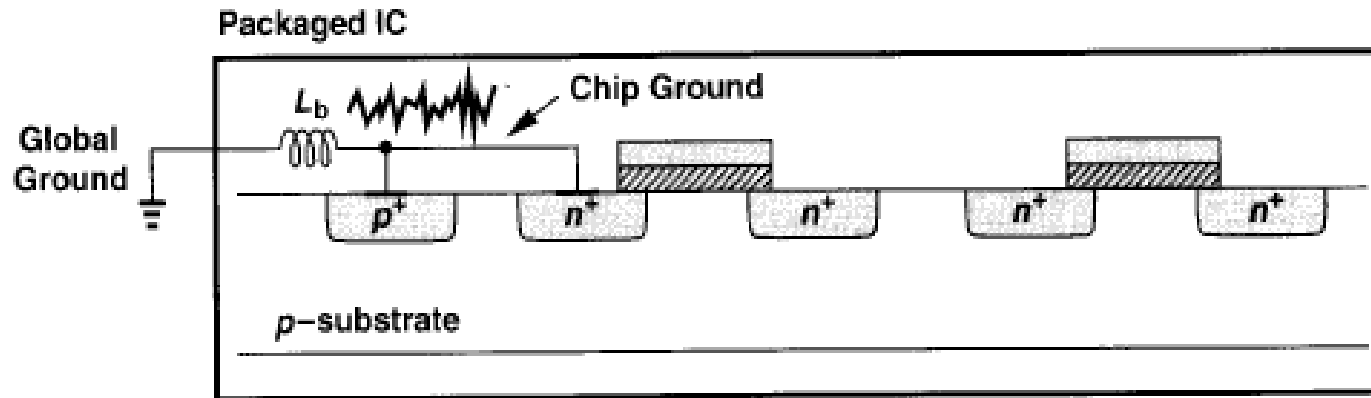

Figure 18.53 Substrate bounce.
- Fig. 18.53: ground and substrate connected on the chip and brought out through a single wire.